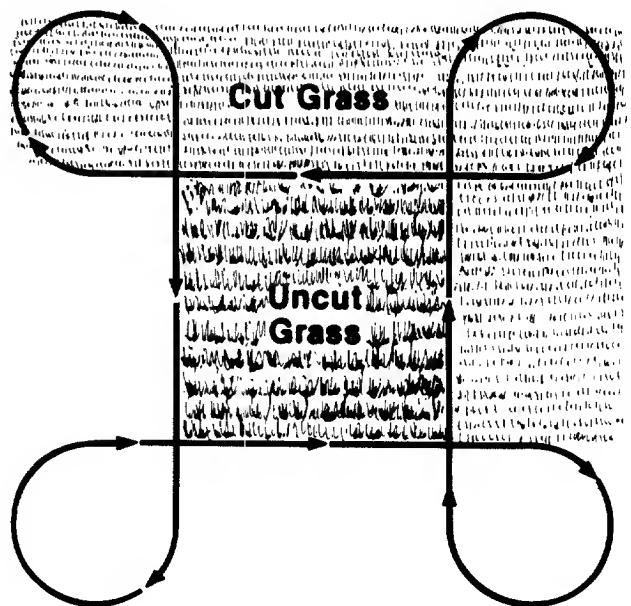

Figure 59
4. Follow the mowing procedure shown in Figure 59.